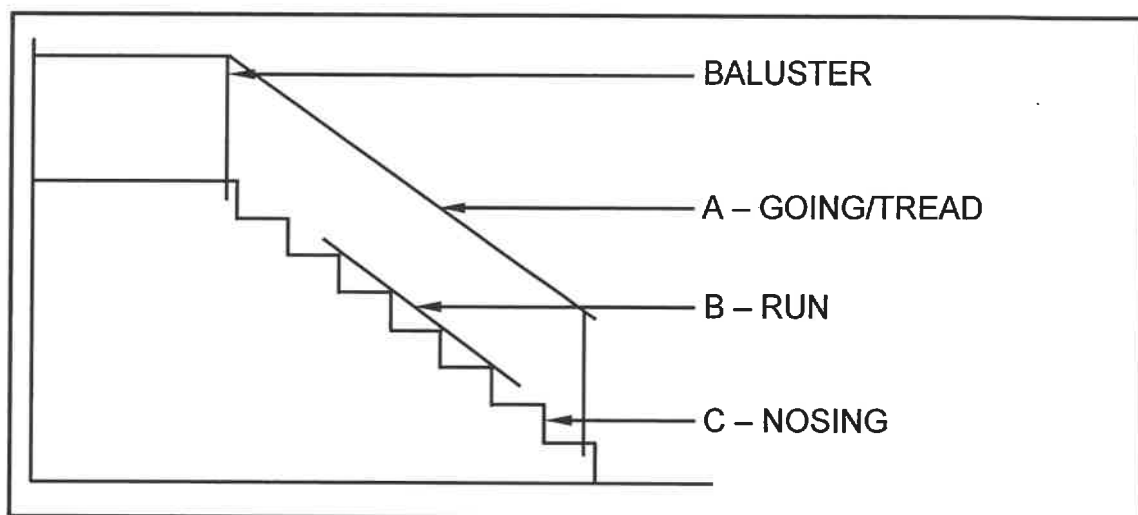

FIGURE 3.2
- 3.2 FIGURE 3.2 below shows a staircase with some incorrect labels.